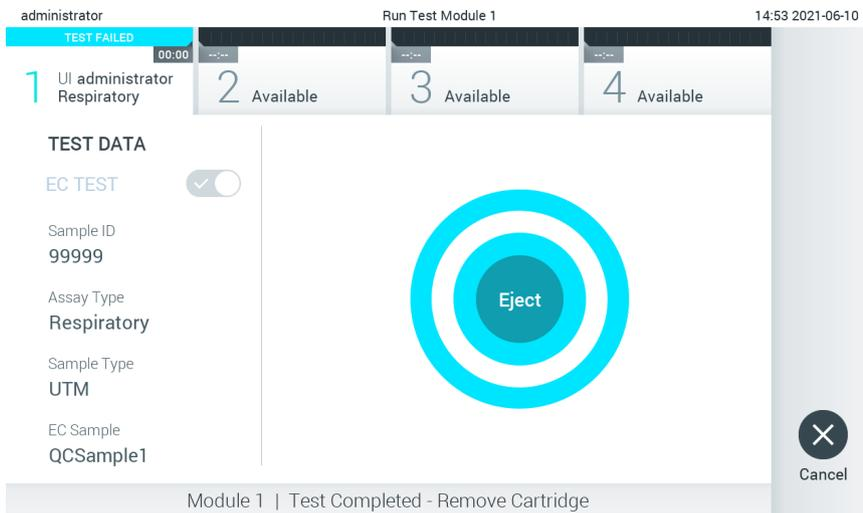

Figure 96. Eject screen display.
11. After the test run is completed, the **Eject** screen will appear (Figure 96). Press **Eject** on the touchscreen to remove the QIAstat-Dx assay cartridge and dispose it as biohazardous waste in accordance with all national, state, and local health and safety regulations and laws.